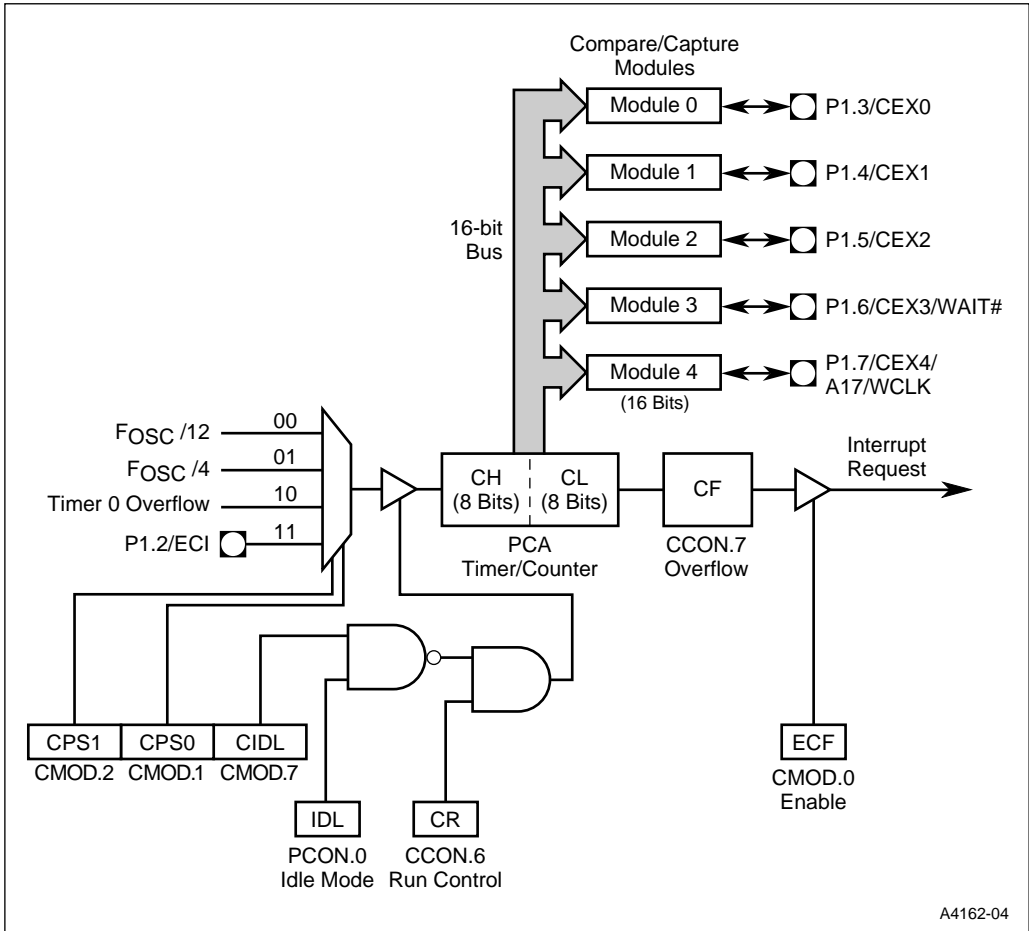
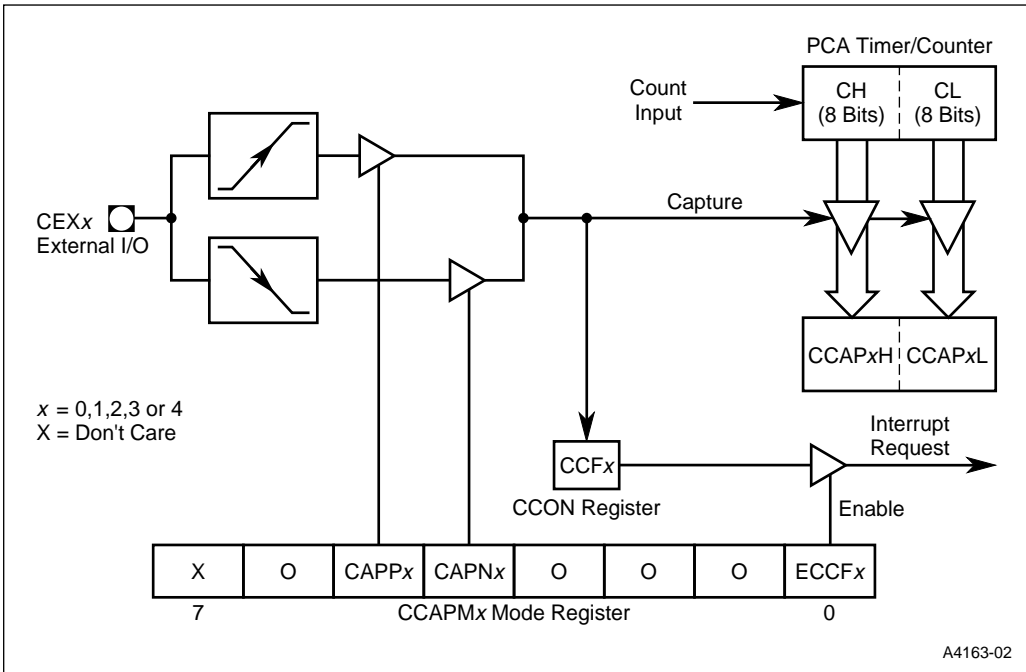

Figure 9-1. Programmable Counter Array
Figure 9-2. PCA 16-bit Capture Mode
The programmable counter array (PCA) consists of a 16-bit timer/counter and five 16-bit compare/capture modules. The timer/counter serves as a common time base and event counter for the compare/capture modules, distributing the current count to the modules by means of a 16-bit bus. A special function register (SFR) pair, CH/CL, maintains the count in the timer/counter, while five SFR pairs, CCAPxH/CCAPxL, store values for the modules (see Figure 9-1). Additional SFRs provide control and mode select functions as follows:
The PCA timer/counter and the five compare/capture modules share a single interrupt vector. The EC bit in the IE special function register is a global interrupt enable for the PCA. Capture events, compare events in some modes, and PCA timer/counter overflow all set flags in the CCON register. Setting the overflow flag (CF) generates a PCA interrupt request if the PCA timer/counter interrupt enable bit (ECF) in the CMOD register is set (Figure 9-1). Setting a compare/capture flag (CCFx) generates a PCA interrupt request if the ECCFx interrupt enable bit in the corresponding CCAPMx register is set (Figures 9-2 and 9-3). For a description of the 8XC251Sx interrupt system see Chapter 6, “Interrupt System.”
Figure 9-1 depicts the basic logic of the timer/counter portion of the PCA. The CH/CL special function register pair operates as a 16-bit timer/counter. The selected input increments the CL (low byte) register. When CL overflows, the CH (high byte) register increments after two oscillator periods; when CH overflows it sets the PCA overflow flag (CF in the CCON register) generating a PCA interrupt request if the ECF bit in the CMOD register is set.
Setting the run control bit (CR in the CCON register) turns the PCA timer/counter on, if the output of the NAND gate (Figure 9-1) equals logic 1. The PCA timer/counter continues to operate during idle mode unless the CIDL bit of the CMOD register is set. The CPU can read the contents of the CH and CL registers at any time. However, writing to them is inhibited while they are counting (i.e., when the CR bit is set).
The logical configuration of a compare/capture module depends on its mode of operation (Figures 9-2 through 9-5). Each module can be independently programmed for operation in any of the following modes:
The capture mode (Figure 9-2) provides the PCA with the ability to measure periods, pulse widths, duty cycles, and phase differences at up to five separate inputs. External I/O pins CEX0 through CEX4 are sampled for signal transitions (positive and/or negative as specified). When a compare/capture module programmed for the capture mode detects the specified transition, it captures the PCA timer/counter value. This records the time at which an external event is detected, with a resolution equal to the timer/counter clock period.